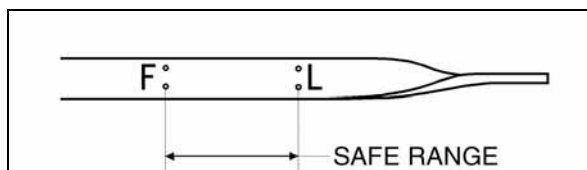

FIGURE 12: ENGINE OIL LEVEL DIPSTICK
Check the oil level daily with the engine stopped. If the engine has just been stopped and is warm, wait at least 10 minutes to allow the oil to drain back to the oil pan before checking. Wipe the dipstick clean then check oil level. The level should always be within the safe range on the dipstick (Fig. 12). Add the proper grade of oil to maintain the correct level on the dipstick. All diesel engines are designed to consume some oil, so a periodic addition of oil is normal.
8. Remove the engine-oil filler cap and pour oil in the engine until it reaches the "FULL" mark on the dipstick (Fig. 12).
10. Add oil as required to bring the level within the safe range on the dipstick (Fig. 12).